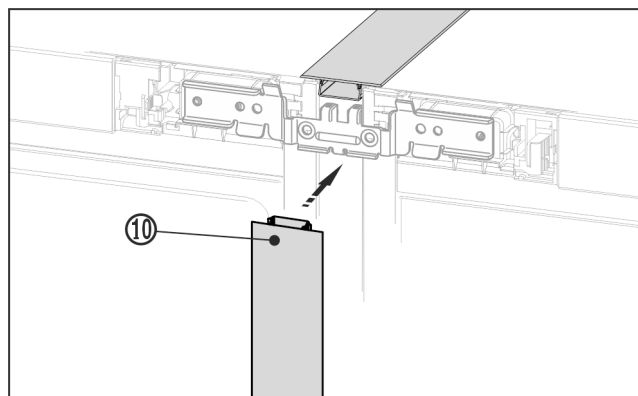

Fig. 22
- ▶ On the front press the long cover strip *Fig. 22 (10)* into the vertical gap. Ensure that the strip rests on the connecting plate.